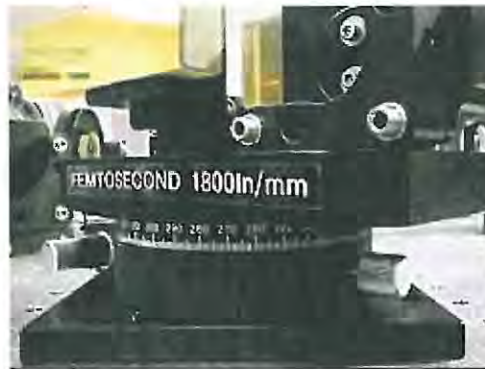

Fig. 3.3 Rotation set screw indicated by arrow as shown above
2. Unlock the rotation stage set screw located at the base of the grating assembly as shown in Fig. 3.3.